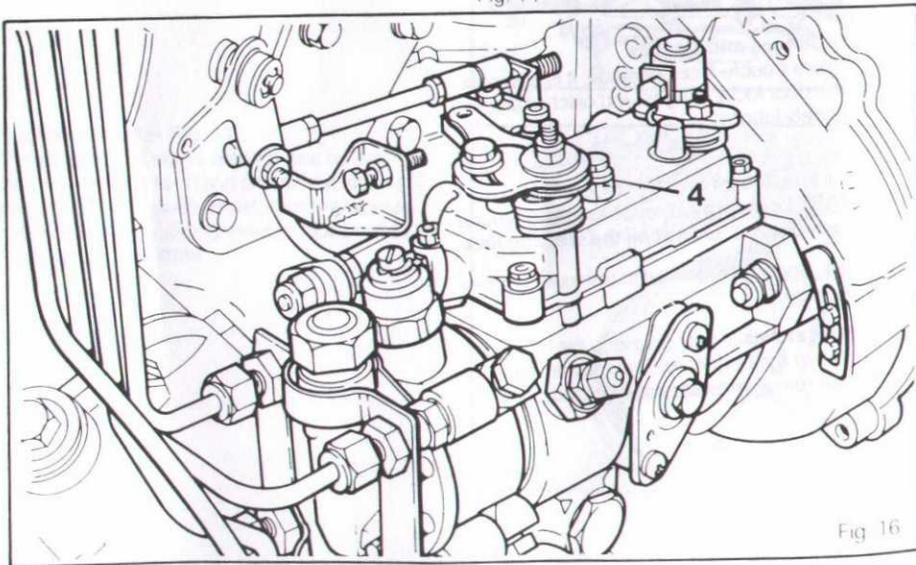

Fig. 16
- Ensure that the fuel cut-off tap (1) is turned on and slacken the blanking plug (2) and the union screw (3) on the filter-head.
- Release air vent screw on distributor body (4) Fig. 16.